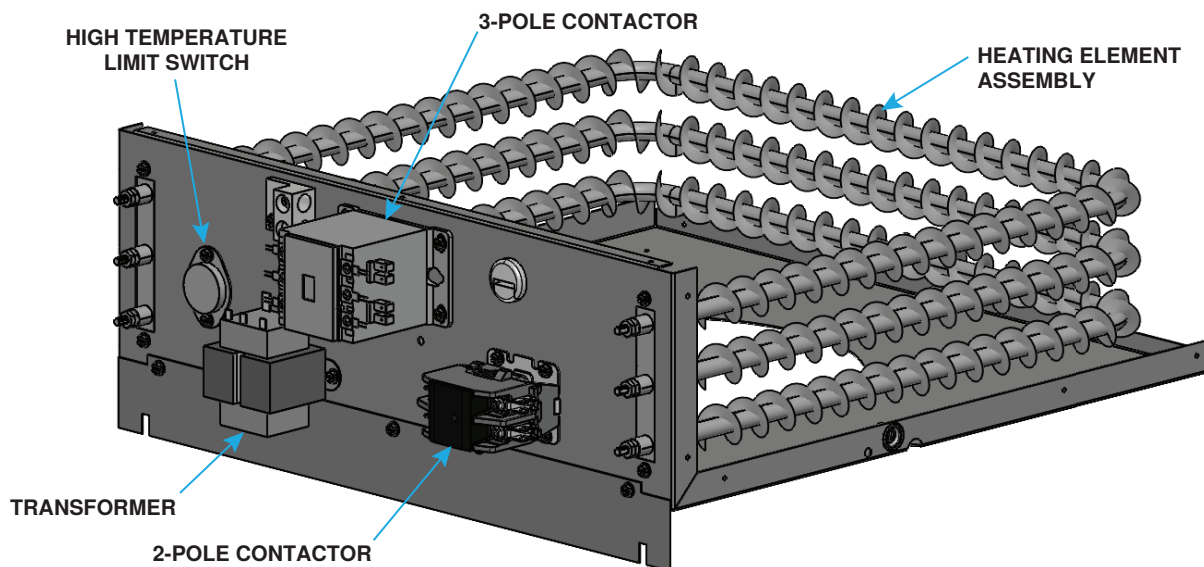

Figure 3. Typical Electrical Compartment
- (1) Loosen terminal screws T1, T2, and T3 on 3-pole contactor (see Figure 3) terminals.
All units are equipped with a normally-closed temperature-activated, automatic-reset high temperature limit switch (see Figure 3). The switch is factory-set and is non-adjustable. If the setpoint is reached, the switch interrupts the electric supply to the heating elements. This safety device provides protection in the case of fan motor failure or lack of airflow due to a restriction at the inlet or outlet.
Inspect heating element assembly (see Figure 3) for signs of damage or excessive wear. If necessary, replace the assembly as follows: